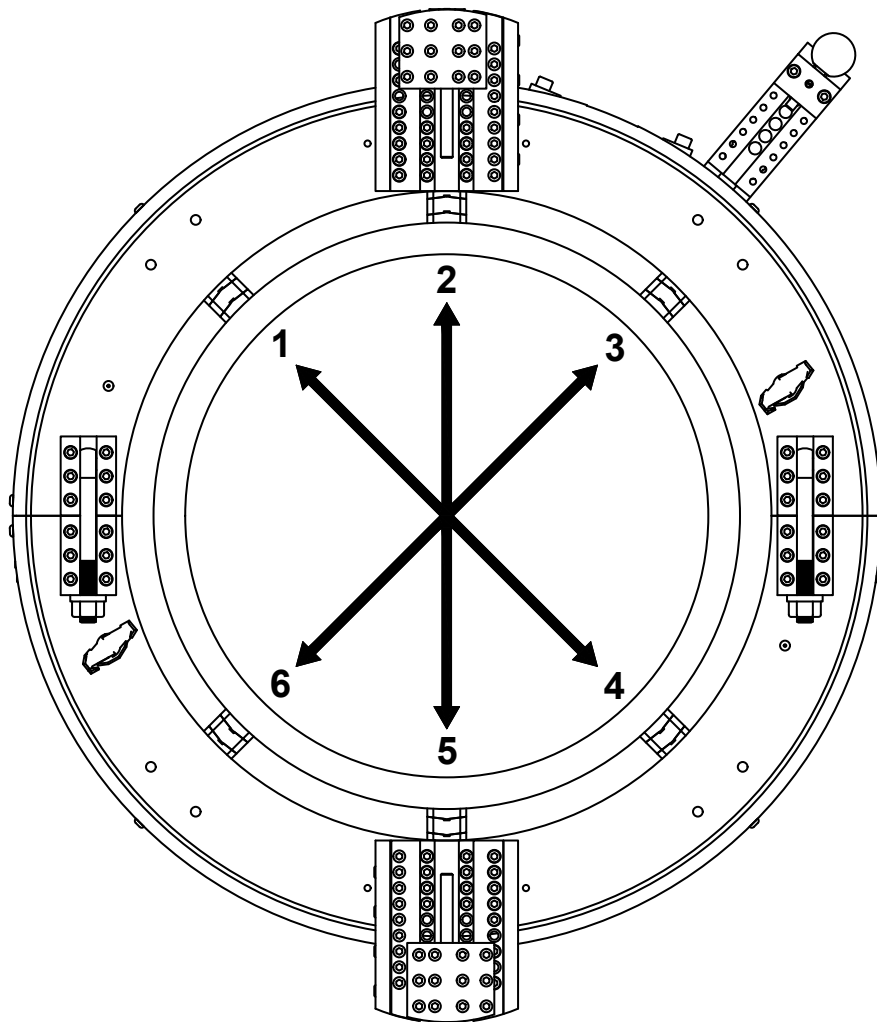

Figure 2-5 – Square and Center Clamshell
5. Square the clamshell to the workpiece. Place a square against the back face of the clamshell and along the length of the workpiece. Adjust locators 1, 4 and 3,6 until the clamshell is square to the workpiece. Always make adjustments in a cross-pattern sequence. See Figure 2-5.
6. Center the clamshell in the workpiece. Measure the distance from the workpiece outside diameter to the clamshell inside diameter at locator positions 1 and 4. Adjust the locators so that they are at the same dimension, while maintaining squareness and a secure fit on the workpiece. Repeat the process on locators 3 and 6. When the clamshell is centered and squared on the workpiece, tighten locators 2 and 5 against the workpiece. For fine centering, place a dial indicator on the clamshell face and indicate to the outside diameter of the workpiece. Make adjustments as required. Make sure all locators are firmly tightened against the workpiece. See Figure 2-5.